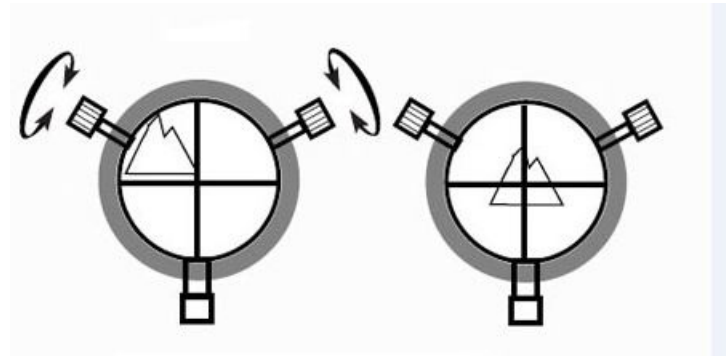

Fig.5.1.1b
- For the 6x30 finderscope with spring loading, adjust only the two small screws (Fig.5.1.1b).